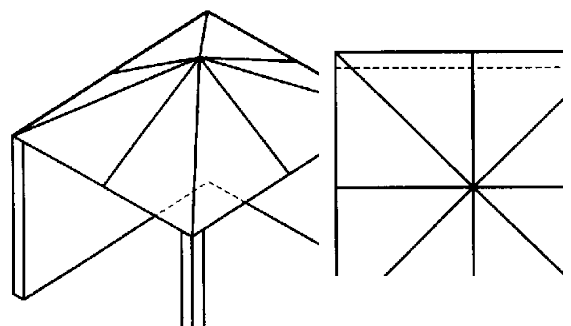

Figure 2 - Partial Enclosure with overhead cover and
- Within a partial enclosure that includes an overhead cover and no more than two walls. See Figure 2 & 3.